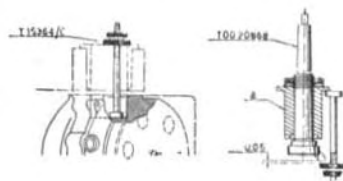

Fig. 20 - Adjustment of machining depth
- Use gauge T 15364/C, as shown on Fig. 20, to adjust the stroke of the cutting tool secured on the spindle to a depth « B » equal to that of the original crankcase.